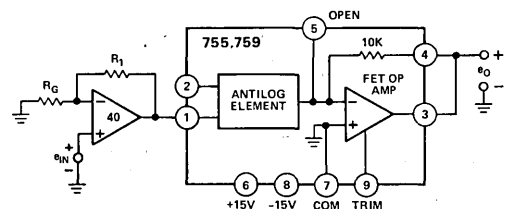

Figure 6. Method for Adjusting  $K < 2/3V$
**Scale Factor (K) Adjustment** — The scale factor may be adjusted for all values of  $K$  greater than 2/3V by the techniques described in the log section. If a value of  $K$  less than 2/3V is desired for a given application, an external op amp would be required as shown in Figure 6. The ratio of the two resistors is approximately: